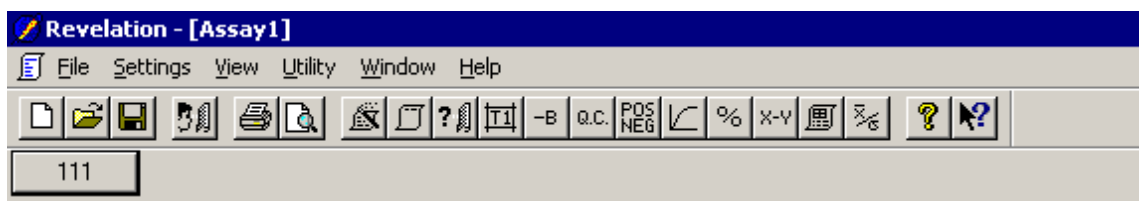

Figure 4-16 The Assay Short Cut Button
- 4 Select the desired assay (e.g. Assay 2) and click **Open** on the *Select Assay/Worklist* dialog box. The *Options* dialog box-*button tab* will be presented again. The selected button name and assay will be indicated (e.g. 111 Assay2) in the *Button* field. A button will be presented on the main window (Figure 4-16) when you close the dialog box.